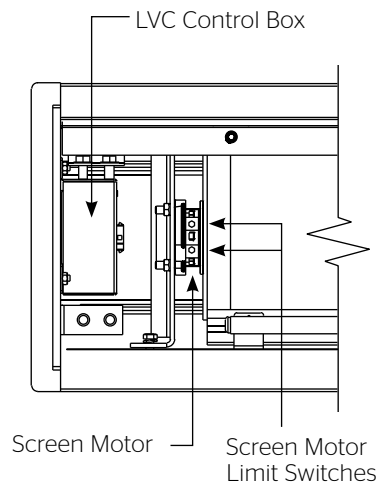

Figure 3
3. Remove the square peg bracket from the motor end of the roller assembly (Figure 3).
7. Complete electrical hook-up by snapping motor 1/3 wire connectors into case connectors (Figure 3).